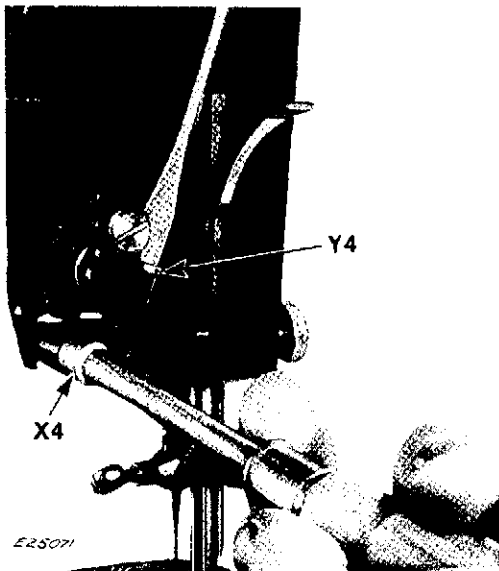

Fig. 67. Location of
2. Using a 1/4 inch spin type box wrench, remove nut from eccentric stud at **X4**, Fig. 67.